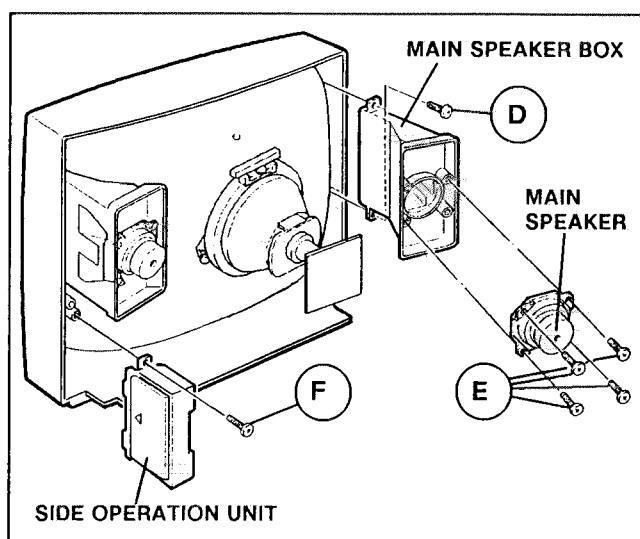

Fig. 2
1. Remove the four screws marked ② as shown in Fig. 2.
2. If the MAIN SPEAKER BOX is removed, remove the two screws marked ③ as shown in Fig. 2.
1. Remove the one screw marked ④ as shown in Fig. 2.